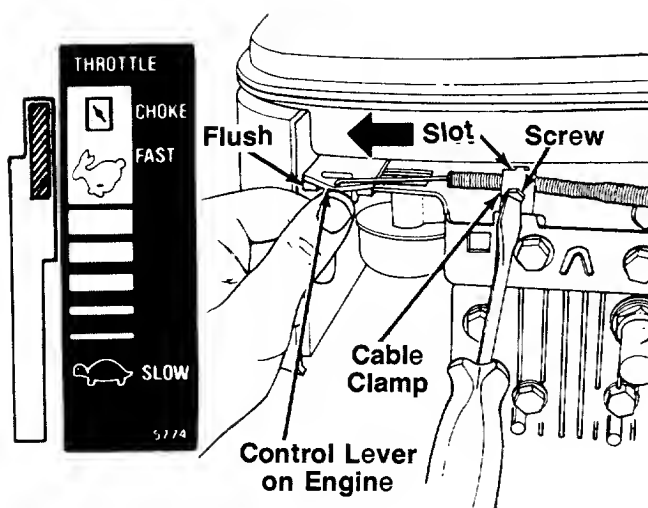

FIGURE 8B.—Model 506R
1. Push the throttle control lever on the handle all the way forward to **CHOKE** position. See figure 8B.
2. The throttle control cable is attached to the upper handle. Route the throttle control cable under the lower handle and inside the handle mounting bracket. Hook the "Z" end of the throttle control cable into the hole in the control lever on the engine. See figure 8B.
3. Using a 5/16" wrench or nutdriver, remove the screw on the cable clamp shown in figure 8B. Slip the control cable under the clamp. Replace the screw (cable should be above the screw), but do not tighten (cable must still move freely beneath the clamp). Make certain the tab on the cable clamp is seated into the slot on the engine.
4. Push the control lever on the engine as far toward the **outside** of the engine as it will go. The edge of the control lever should be flush with the bracket on the engine. See figure 8B. Hold the control lever in this position as you tighten the screw on the cable clamp to secure the throttle cable.